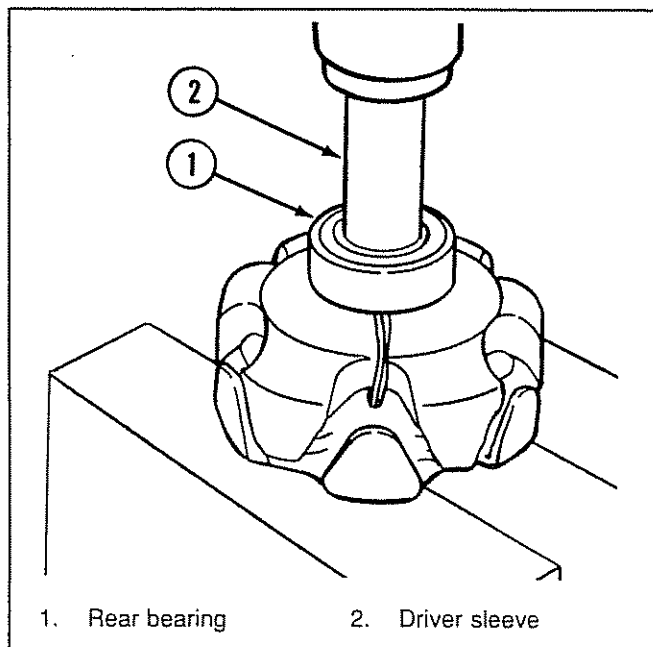

Figure 6-82. *Installing Rear Bearing On Rotor*
1. Place the rotor assembly on suitable blocks (Figure 6-82). Make sure wire leads are in the groove of the shaft. Press the rear bearing onto the shaft using a driver sleeve, pressing against the inner race only. Seat the bearing firmly against the shaft shoulder.